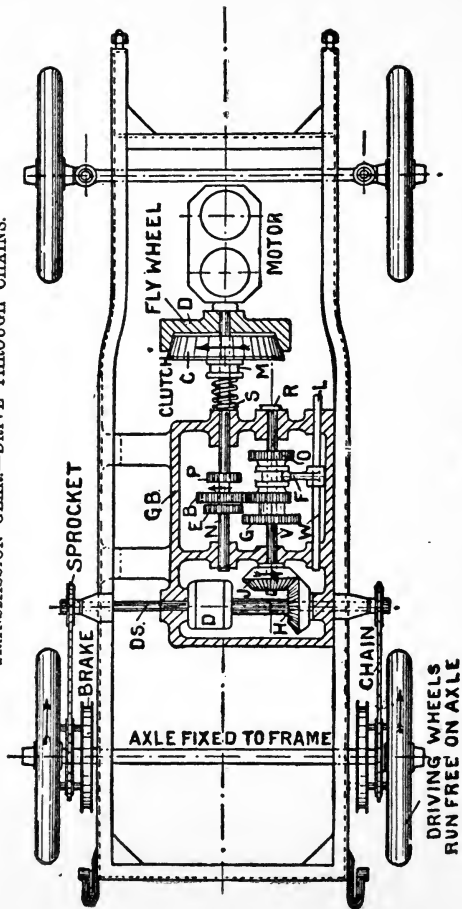
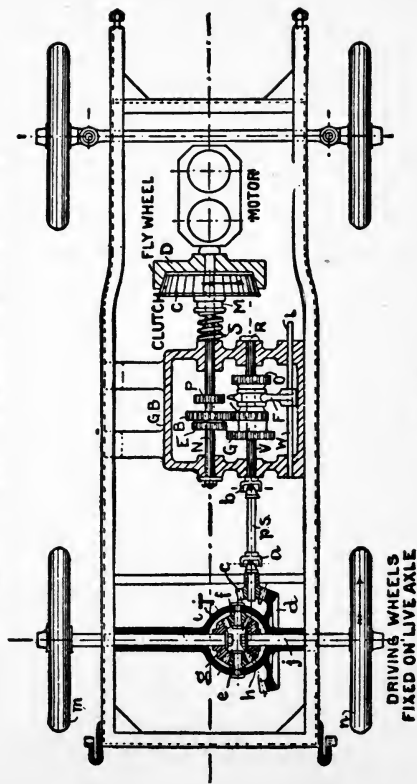
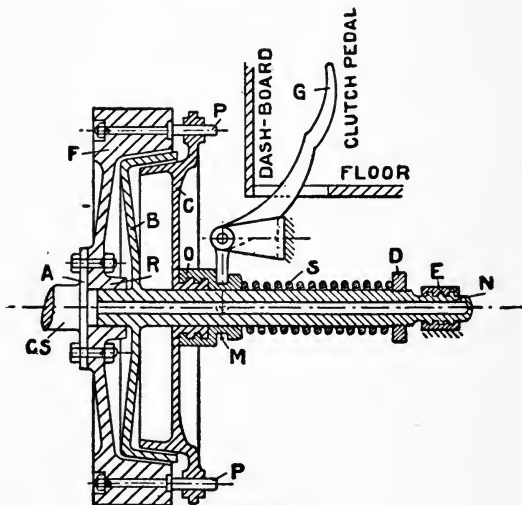

Fig. 18.
Fig. 19.
Fig. 20.
55. If a side view of the engine in Fig. 1 had been shown, it would have been seen that the crank-shaft is fitted with a fly-wheel, whose function in a reciprocating engine is well understood, as most people are aware that not a little of the even running of a gasolene engine, with its one working stroke in four, is due to this important part being of sufficient size and weight. Of course it is keyed to the tail of the crank-shaft, as shown in Fig. 18 at D, and in most cases it is made with a conical hole arranged to form, with the male conical block C, a friction clutch. This clutch is used to connect the road wheels with the motor through a mechanism called *the transmission gear*. And two forms of this gear now hold the field, one, called *chain gear*, in which side chains are used to drive the back road wheels, which are loose on the axle, and the other in which the power is transmitted to the back axle, by tooth gearing, causing it to rotate and carry with it the rear road wheels, which are in this case fixed to it. To understand these arrangements, and to be clear about what happens when a car is reversed, or put on a different speed by a change of gear, the reader is referred to Figs. 18 and 19, which diagrammatically show typical examples of these gears. The former illustrates the system of *Driving through Side-Chains*, and it will be seen that the male part C of the clutch is kept in frictional contact with the fly-wheel part D, by the action of the compressed helical spring S, the friction between them due to the spring being great enough to enable the engine to drive the car through the clutch. A bell-crank lever, with a fork at one end and a pedal at the other, is
fitted to the grooved collar M, as shown in Fig. 20, in such a way that when the pedal G is pushed, the spring is compressed and the clutch thrown out of action. Now, although this small end movement of the clutch cone C in relation to the shaft N can take place, they are so coupled¹ that when C is "let in," and is rotating about the axis, the shaft N is made to turn with it. Keyed to N (Fig. 18) are three wheels, E, B, and P (E and B are used for running ahead,² and P for reversing), each of which is arranged to mesh with one of the wheels on the sleeve GO. Now this sleeve is usually made with a square hole fitting the shaft RV, which is square to fit it.³ The sleeve has on it a grooved collar, which engages a sliding fork F, suitably connected at L, to the change-speed lever fixed at the right hand side of the car, and this lever works in a quadrant with four notches, one of these corresponding to the position of the sleeve shown with the *second speed*⁴ wheels in mesh.
56. Live-Axle or Cardan Drive, in which the power of the engine is transmitted to the road wheels by *tooth-gear* throughout. This system, which is becoming increasingly popular, can be understood by an examination of the explanatory diagram Fig. 19. It will be noticed, that from the motor to the gearing box GB, the mechanism is the same as in Fig. 18; indeed, the greater part of the gear and box is identical with that previously described in connection with that figure, but in Fig. 19 the tail of the shaft GR is connected to the bevel pinion *c* by the propeller or Cardan shaft *ps*, two flexible or universal joints² *a* and *b* being fitted to the shaft to allow full play of the carriage-spring system between the road-wheel axle and the frame which supports the motor and gear-box.
¹One form of this interesting and indispensable gear is shown in section on the live-axle in Fig. 19, and its action is referred to in the next article.
57. The Differential Gear, which is a train of wheels elegantly arranged to *average* the speeds of the two driving wheels, for, when the car turns a corner or runs round a bend in the road, the outer road wheel will be traveling faster than the inner one; but the propeller shaft can only revolve at one speed at any given moment, and that, therefore, must be the average of the two speeds, due to the running of the inner and outer road wheel. Although it is not easy, without suitable drawings, to make clear to the general reader how this arrangement works, the following experiment will help him, at any rate, to understand the function of this important fitting. Jack up the road-driving wheels to clear the ground, place the change-speed lever in the neutral notch, then turn by hand one of the road wheels n (Fig. 19), and the other wheel m will revolve in the opposite direction at the same speed, the average speed being zero. Again, let one of the wheels, say n , be fixed, and the bevel wheel d be turned, it will be found that the other road wheel m will revolve at twice the speed of d ¹ or the speed of d is the average of the speeds of m and n , as before. And so, if in turning a corner n revolved at 70 a minute and m at 80, d would be running at the mean or average 75.
60. The Panhard Clutch, which is diagrammatically shown in Fig. 20. It will be seen that in this arrangement the dished fly-wheel F is bolted on to the tail of the crank-shaft CS, which is flanged at A for that purpose. Through the rim of the fly-wheel, pins PP are fastened, the projecting parts passing through holes in the flange of the male cone C to enable the fly-wheel to drive the latter. The female cone B is attached to the hollow clutch shaft N,² so that when the clutch is engaged, the helical spring S presses the grooved collar M against the cone C, forcing it into cone B, and in so
² This shaft is usually coupled to the change-gear shaft N (Fig. 18) by a sleeve, inside of which is a distance piece, so that by opening the coupling sleeve and removing the distance piece, the clutch and shaft can be removed.
Most cars are fitted with band brakes on the driving wheels, as shown in Fig. 18, but several makers have abandoned these in favor of some form of expanding brake acting on the inner surface of a ring or annular flange.¹ It is imperatively necessary that all car brakes should be so constructed that they are equally effective whether the car be moving forward or backward, for upon the perfect working of the brakes depends the safety of the car and its occupants.